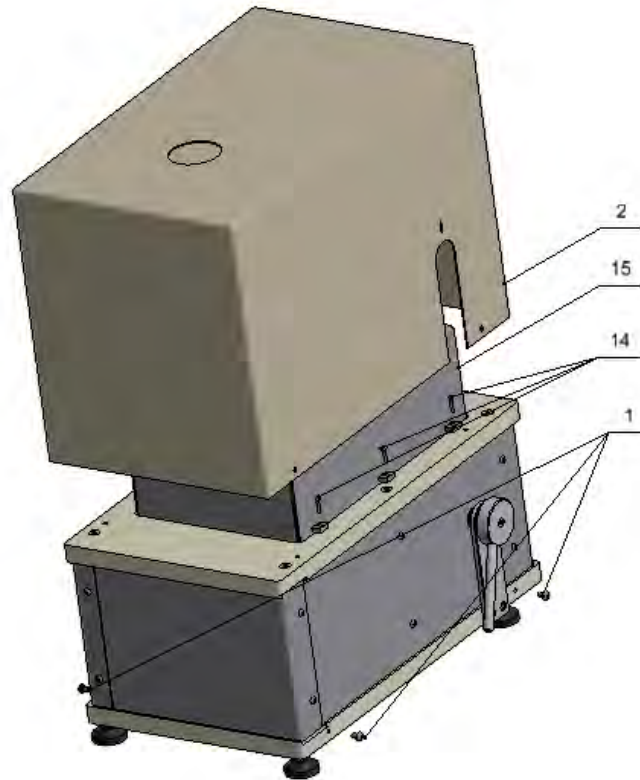

Fig.9
14. Fix top shield assembly (15) using six M3 screws (14). (Fig.9)
15. Use four M5 screws (1) to fix the housing (2). (Fig.9)